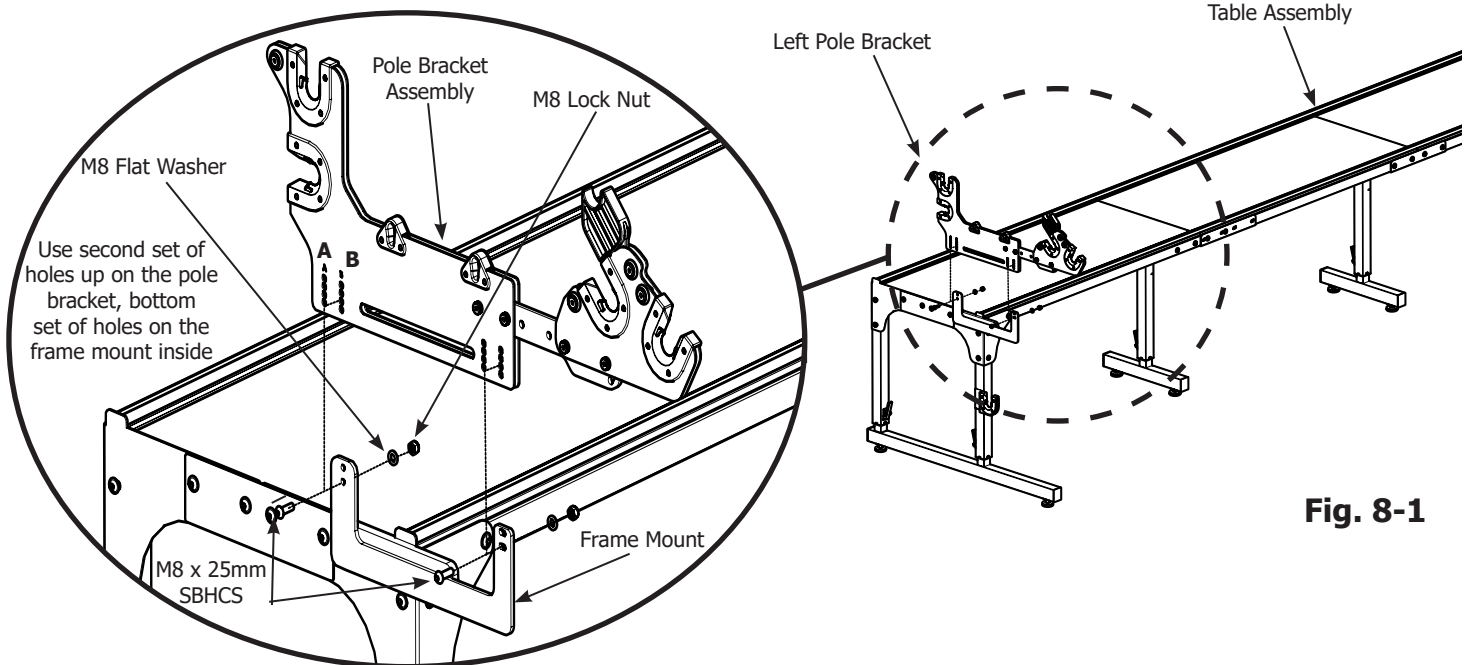

Fig. 8-1
8.2: Slide the plugged-hole pole bracket down over the metal frame mount on the left frame side front. The pole bracket should straddle the frame mount. Attach the plugged-hole pole bracket to the frame using two (2) M8 x 25mm SBHCS. Align the screws through the second hole from the bottom of the pole bracket into the bottom hole on the frame mount and insert the screws from the outside to the inside of the frame. On the end of each screw, slide a flat washer followed by a lock nut, as shown in Fig. 8-1.